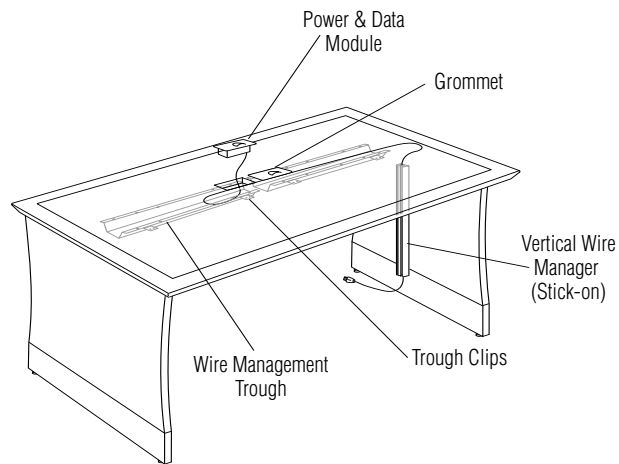

Figure 4
3. Tip table upright. Snap the power & data module (or grommet) into place with the electrical cord feeding through grommet opening (Figure 4).